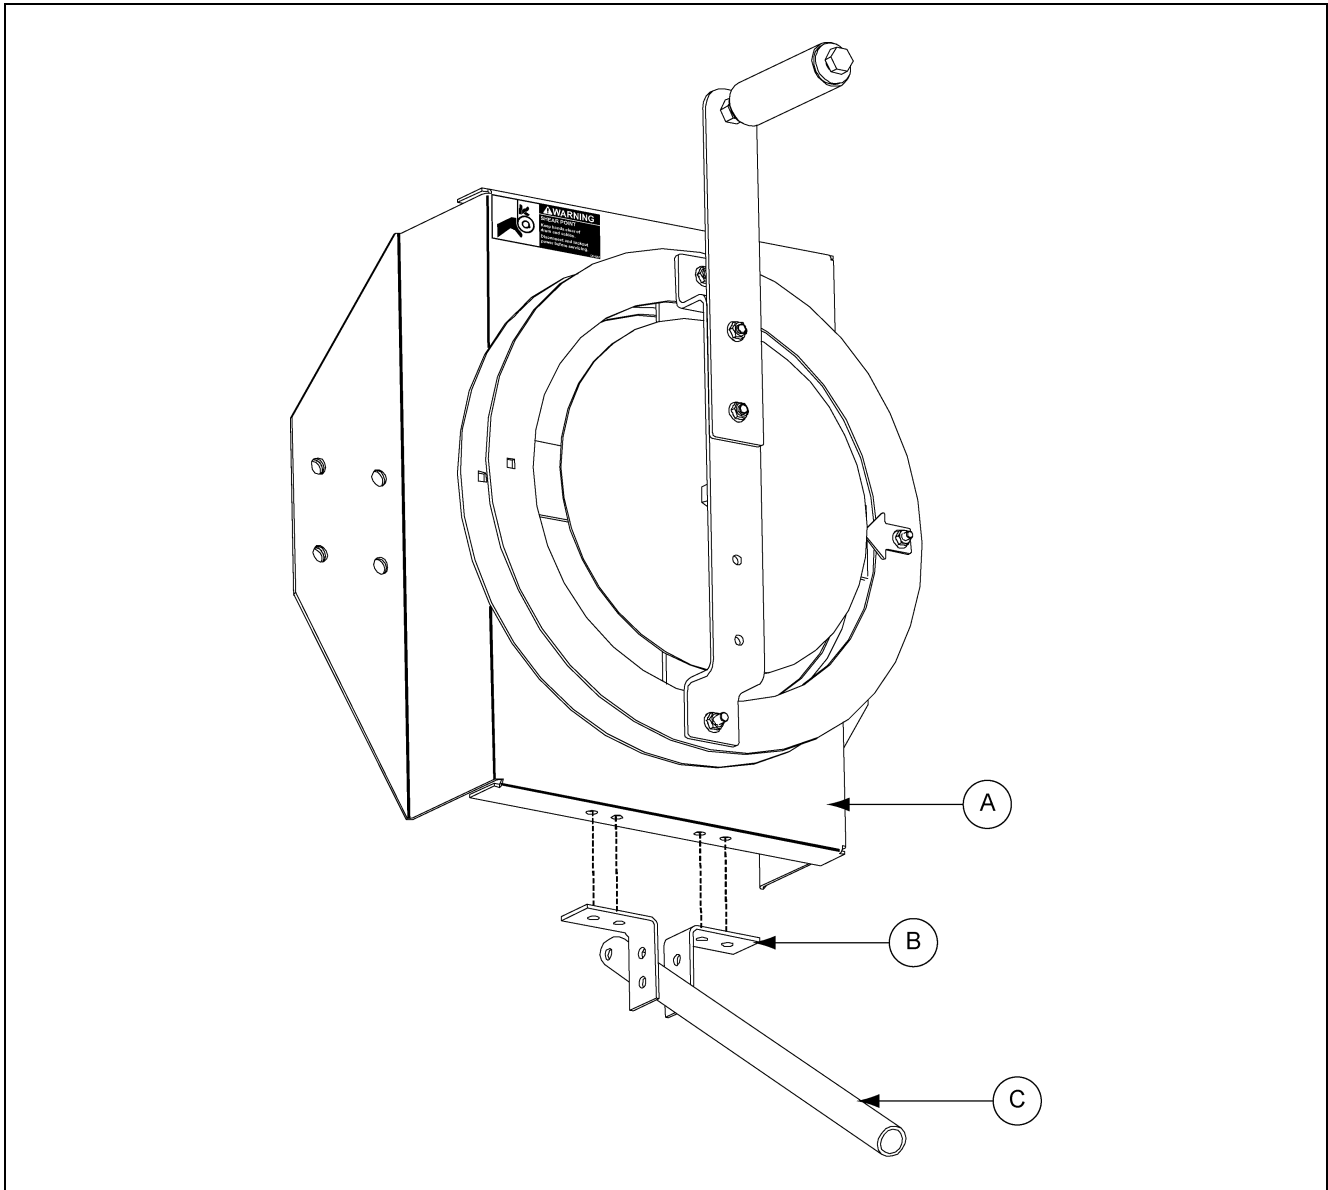

Figure 5E
Once the upper assembly has been installed, the control handle needs to be assembled to the lower cable wheel assembly. There are two (2) brackets (B) that mount to the bottom of the lower cable wheel assembly (A). These brackets are fastened with 5/16" x 1" bolts and nuts. The control handle (C) is mounted between the brackets using the second hole in the control handle and the end hole on the brackets. This is fastened using 5/16" x 2" bolt and lock nut. The hardware required is located in (FC-DCG-HDW). This assembly is shown in Figure 5E.